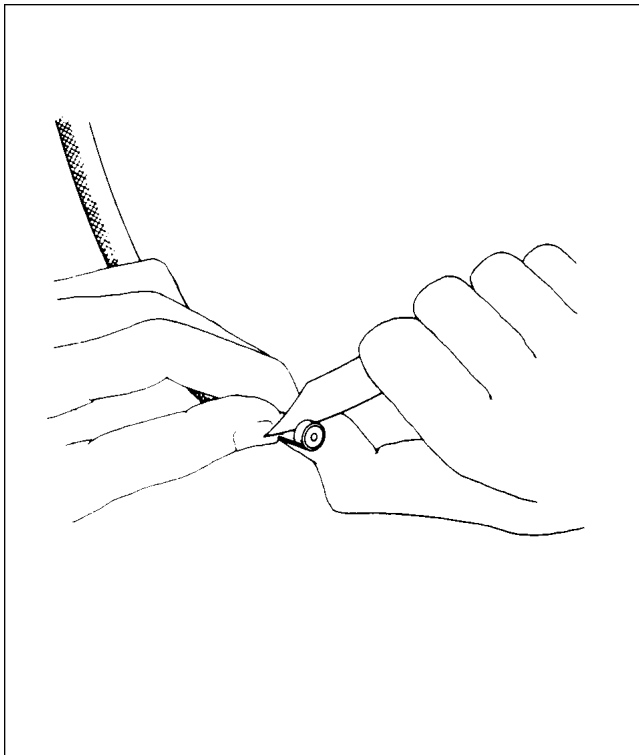

Figure 74-17. Cutting Insulation
- e. Cut exposed insulation 0.062 inch (0.125 inch for Bendix magneto) back from end and roll insulation clockwise to remove. Do not pull insulation off wire. Trim end of coiled conductor to make a clear hole for inserting stud. Refer to Figure 74-17.